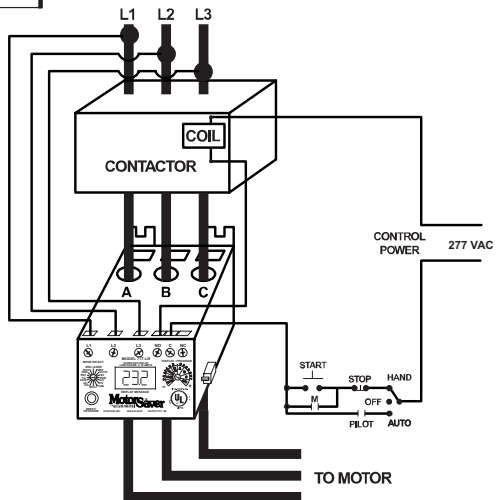

FIGURE NO. 1: Typical Wiring Diagram
2. Insert the motor conductors through the round holes marked "A", "B", and "C." Terminate the conductors at the line or load side of the magnetic contactor. **Note: For motors with full load amps less than 2.0 Amps**, loop the conductors through the holes marked "A", "B", and "C" according to Table No. 1 below. The rectangular holes behind the holes marked "A", "B" and "C" are provided for wire looping (see Figure No. 1).
3. Connect the three-phase power from the line side of the contactor to "L1", "L2" and "L3". First insert a #14 - #18 AWG wire into the top of the terminal marked L1 and tighten the screw on the front of the overload relay. Then, connect the other end of the wire to the line side of the contactor. Repeat these two steps for L2 and L3 (see Figure No. 1).
4. Connect the output relay to the circuitry to be controlled (see Figure No. 1). To control a motor, connect the normally open contact in series with the magnetic coil of the motor starter as shown. To sound an alarm, connect the normally closed contact in series with the alarm (not shown).